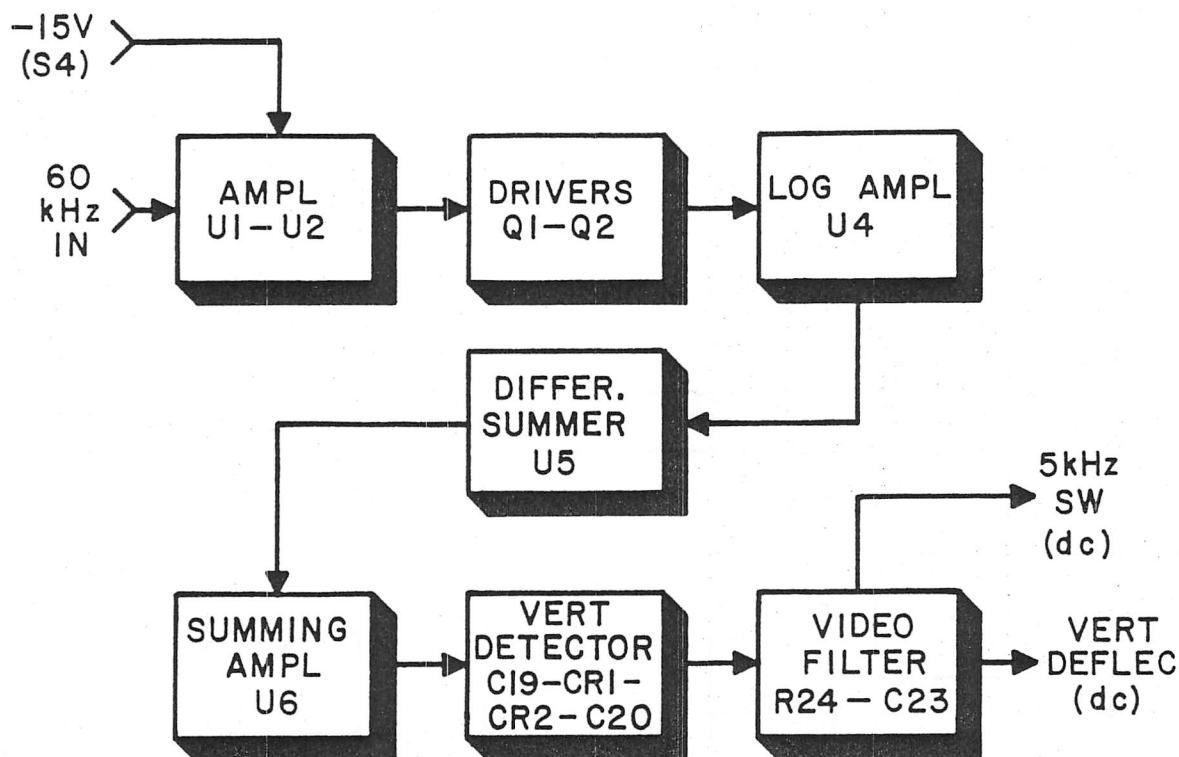

Figure 3-3. Logarithmic Amplification Circuit, Block Diagram
3.2.5.2 Logarithmic Amplifier (Figures 3-3, 3-4)